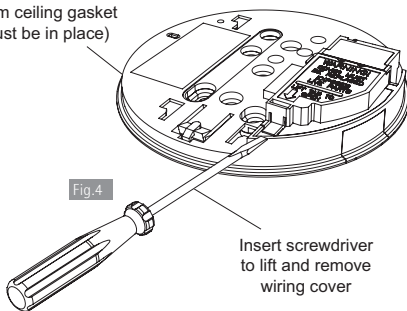

Fig. 4
3. Lift off the wiring cover as shown in Figure 4.